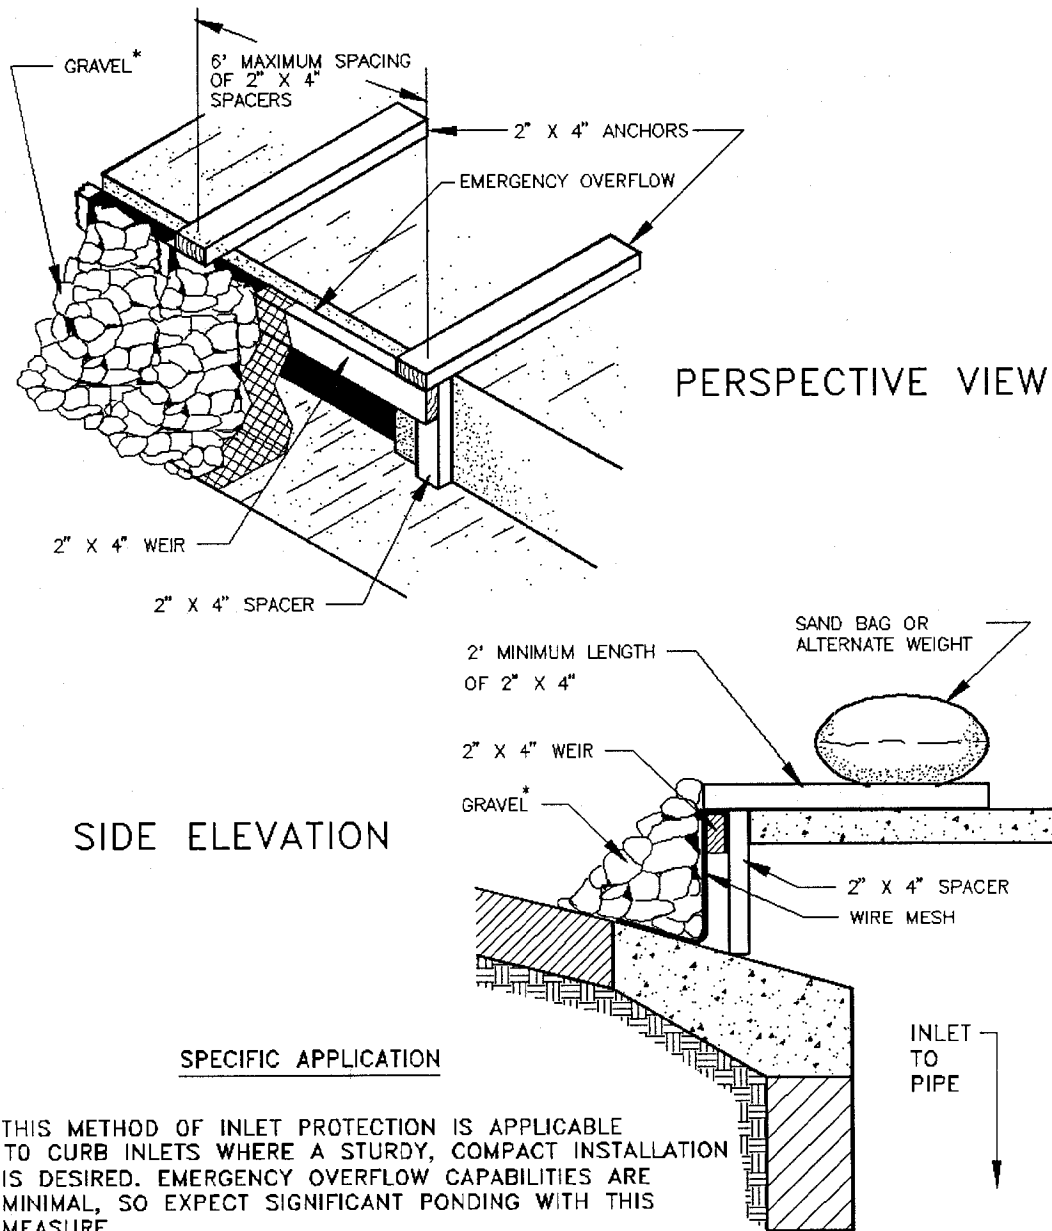

Figure 1-37 Wooden Weir Curb Inlet Protection (VA Dept of Conservation, 1992)
- (1) Attach a continuous piece of wire mesh (30-inch minimum width x inlet throat length plus 4 feet) to the 2-inch x 4-inch wooden weir (with a total length of throat length plus 2 feet) as shown in Figure 1-37. Wood should be “construction grade” lumber.
- (2) Place a piece of approved filter cloth of the same dimensions as the wire mesh over the wire mesh and securely attach to the 2-inch x 4-inch weir.
- (3) Securely nail the 2-inch x 4-inch weir to the 9-inch long vertical spacers which are to be located between the weir and inlet face at a maximum 6-foot spacing.
- (4) Place the assembly against the inlet throat and nail 2-foot (minimum) lengths of 2-inch x 4-inch board to the top of the weir at spacer locations. These 2-inch x 4-inch anchors should extend across the inlet tops and be held in place by sandbags or alternate weight.
- (5) The assembly should be placed so that the end spacers are a minimum 1 foot beyond both ends of the throat opening.
- (6) Form the wire mesh and filter cloth to the concrete gutter and against the face of curb on both sides of the inlet. Place coarse aggregate over the wire mesh and filter fabric in such a manner as to prevent water from entering the inlet under or around the filter cloth.
- (7) This type of protection should be inspected frequently and the filter cloth and stone replaced when clogged with sediment.
- (8) Assure that storm flow does not bypass inlet by installing temporary earth or asphalt dikes directing flow into inlet.